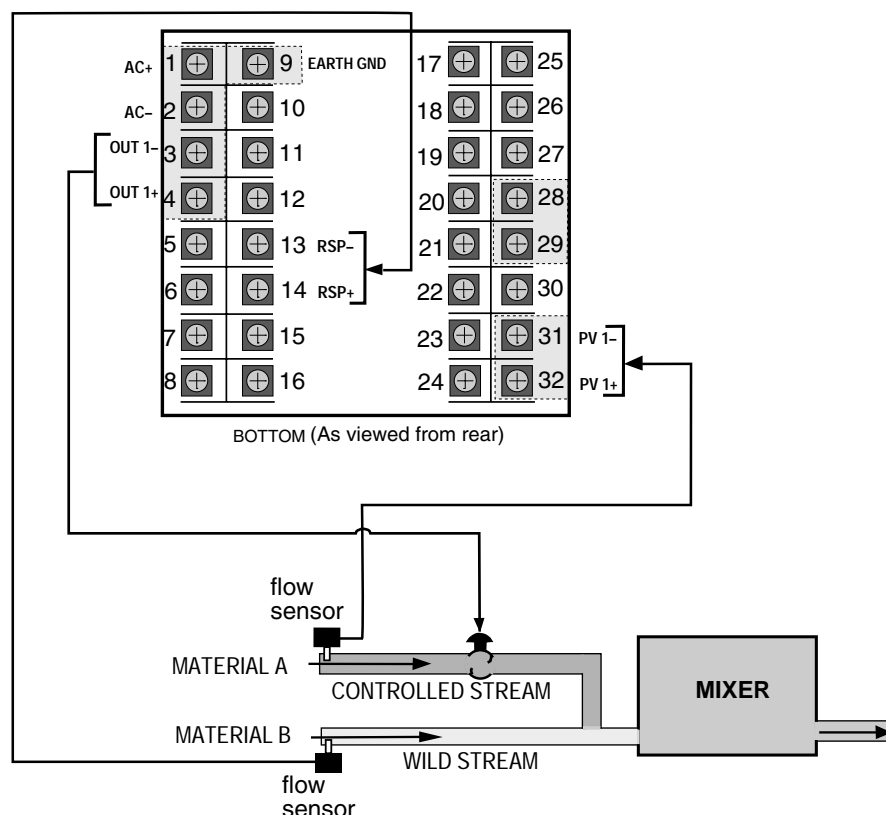

Figure 7.21
For this example, as shown in Figure 7.21, we would set **RSP RATIO** to 2.0. If the flow of Material B is measured at 50 gallons/minute, the effective remote setpoint value would be 2 times 50, or 100. The 535 controller would try to maintain the flow of Material A at 100. As the flow of Material B changes, the setpoint would change accordingly, always in a 2:1 ratio.
- Wire as in Figure 7.21.